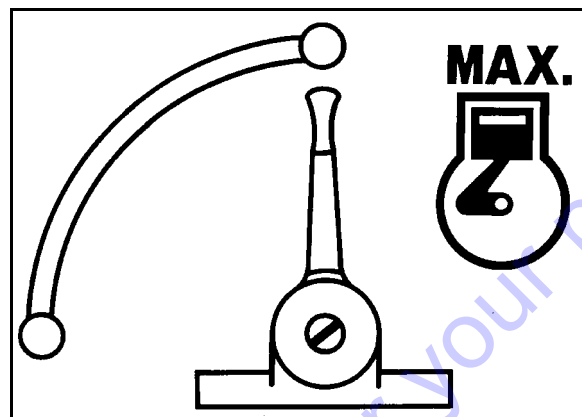

Fig. 11
- Set the throttle lever (Fig. 11) to position "MAX".